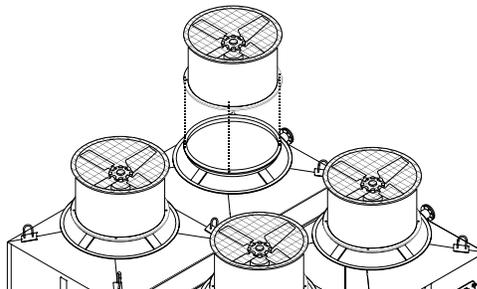

Figure A-41: Fan duct installation in a fan adaptor for a four fan tower
D. If there is more than one fan, follow the same instructions from previous step to install remaining Fan Ducts (see an example in Figure A-41). Each fan duct is labeled with a number on the inside of the lower edge; for a correct installation, this number must match the number on the corresponding fan Adaptor.